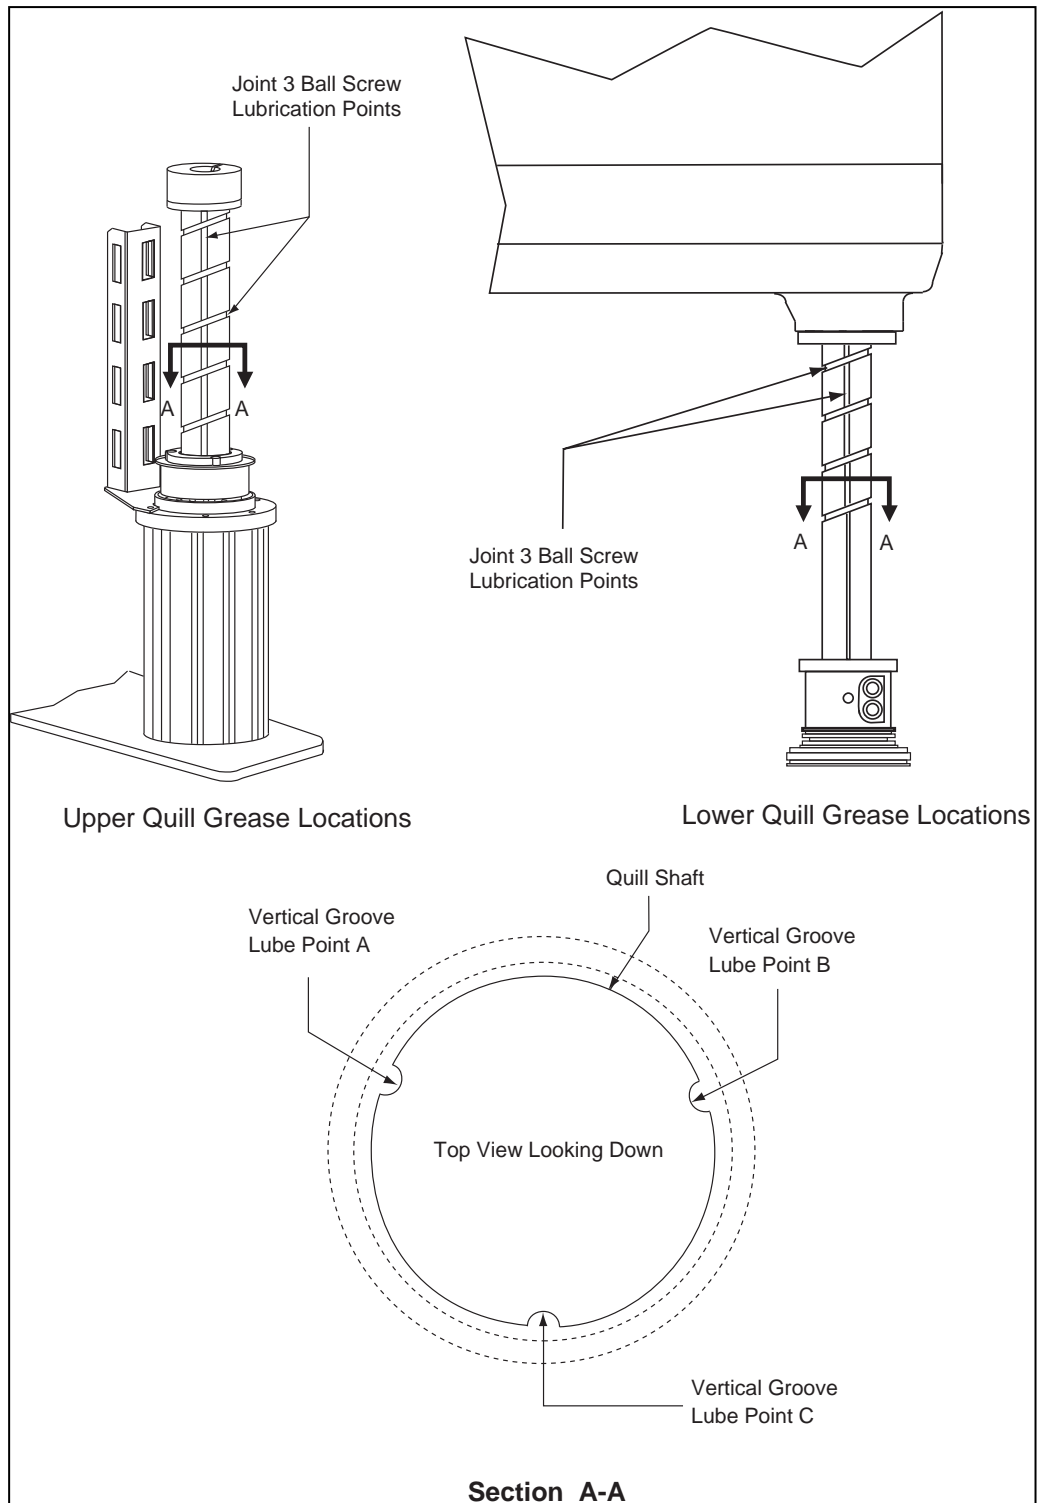

Figure 7-6. Lubricating Joint 3 Quill
5. Use a syringe to apply a small bead of grease to the three Joint 3 ball screw grooves and the spiral groove. Refer to Figure 7-6.